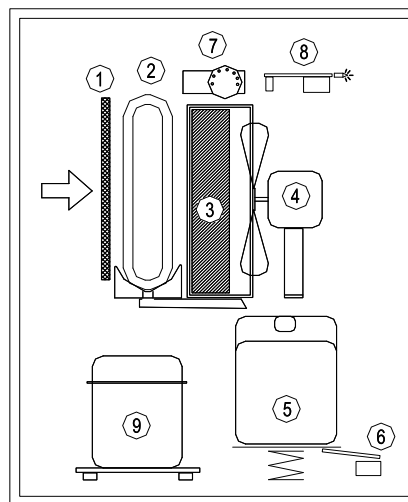
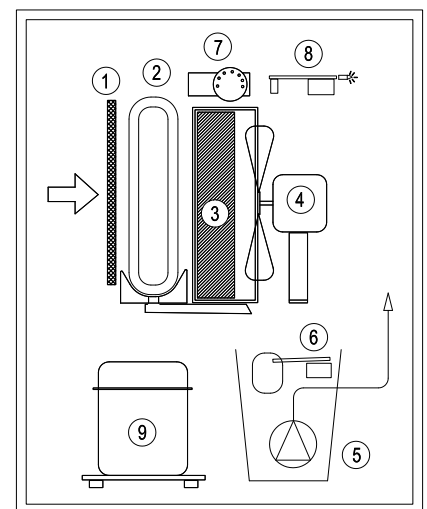

Fig. 2
Fig. 3
With reference to the drawing (fig. 1), the air is drawn in through the back side of the dehumidifier, then it passes through the **filter (1)**, through the aluminium refrigerated coil or **evaporator (2)**, again through the heat-exchanger or **condenser (3)**. Finally, the **motor fan (4)** expels the air back into the room through the front grilled panel: The condensed water is collected in the **tank (5)**. A **micro-switch (6)** stops the machine when the water in the tank reaches the correct level by raising the water float lever. The **humidistat (7)** starts the functioning of the dehumidifier when the humidity is higher than the preset level. An **electronic circuit (8)** controls the defrosting and prevents the **compressor (9)** repeated starts within too short a time by delaying each new start. Some models have a different water tank stop device and use a gravity system (fig. 2) instead of the floating ball. Fig. 3 refers to the machine provided with lifting pump, which includes a water collection tank (5) and a floating ball stopping device for full tank (6), in case the pump would not unload properly.